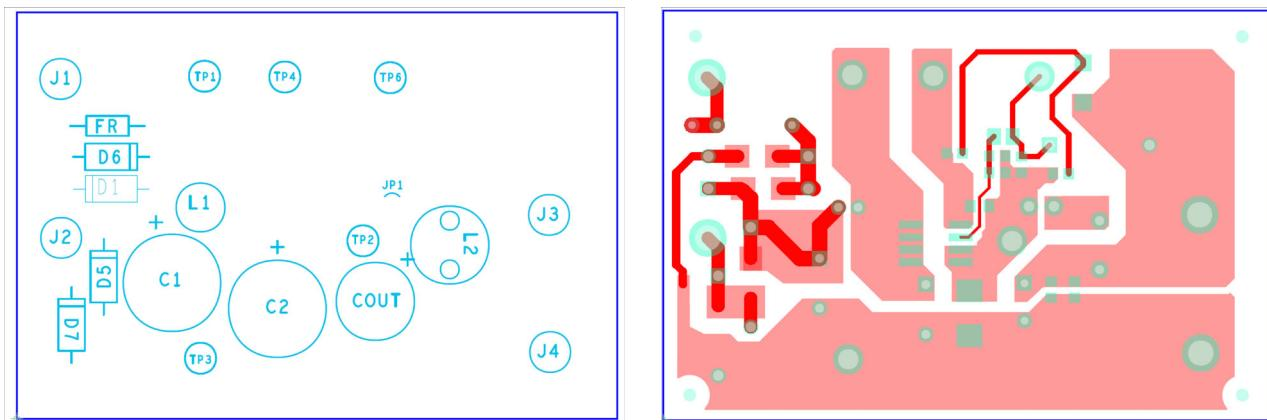

Figure 34. Example PCB Layout
- Place the VCC decoupling capacitor and the FB pin decoupling capacitor close to the pins. A PCB layout example is shown in Figure 34.